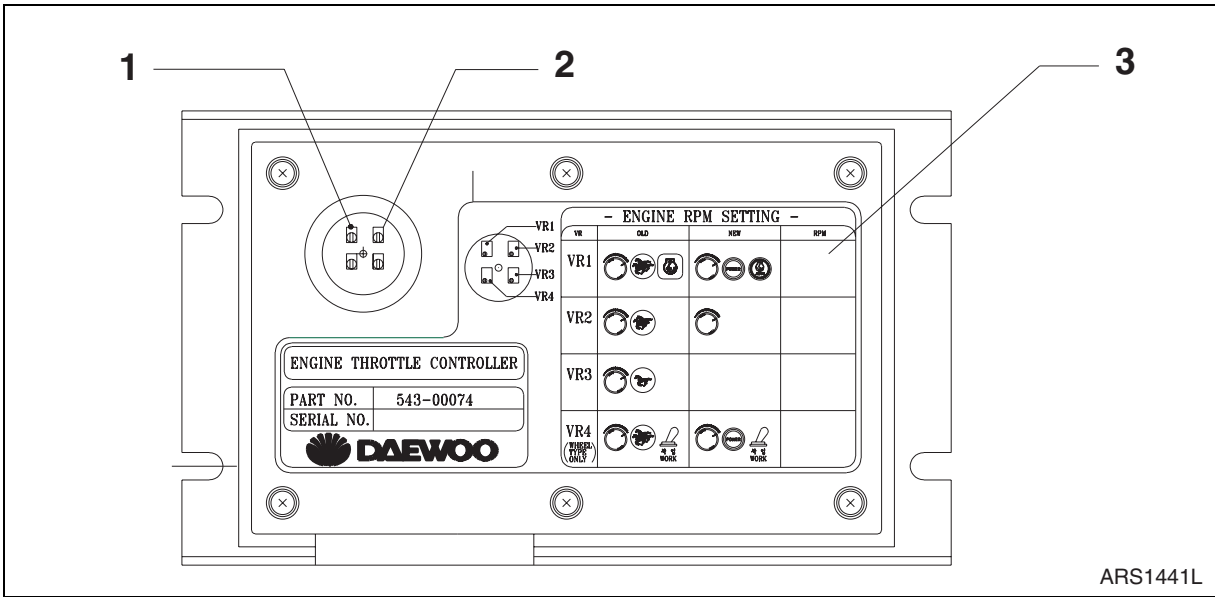

Figure 64
- C. Adjust engine speed by slowly turning variable resistor screw "VR1." (See Figure 64.)
- C. Adjust engine speed by slowly turning variable resistor screw "VR2." (See Figure 64.)
| Automatic Deceleration (Auto Idle) | VR1 |  | Refer to throttle controller name plate (3, Figure 64). |
| Standard Mode | VR2 |  | Refer to throttle controller name plate (3, Figure 64). |